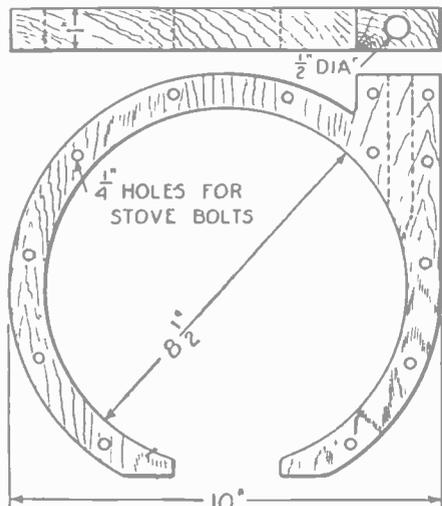

FIG. 11
2-inch long, 3/4-inch wide and 1/2-inch thick as shown in Fig. 10. The frame is made from a square block of wood thoroughly soaked in oil. In Fig. 11 is shown how the block of wood is prepared after being thoroughly soaked in oil.
After the wood is finished and the holes are bored as shown in Fig. 11 (C), the next step is making the side walls which are very simple and easy to construct. They are made
Hold the wooden block, Fig. 11, on the iron and draw an outline to conform with its outer dimensions. Also drill the required holes by using the holes of the block as a template.
The side piece closing the chamber for the motor, fitting upon the separator shown in Fig. 11. There are two of these, one for each side.
of power. Fig. 11 shows at the bottom the water outlet, which is taken care of by cutting the wooden block as shown in the same diagram.